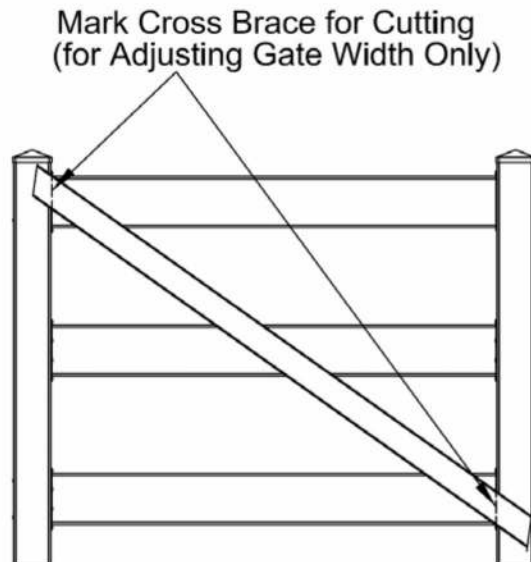

Fig. 7 Marking the Cross Brace for New Gate Width
- f.) **Mark Cross Brace for Cutting:** The cross brace will need to be re-cut to fit snugly in between the uprights. After squaring the gate, place the cross brace on the gate and mark the cross brace with a pencil as demonstrated in Fig 7.